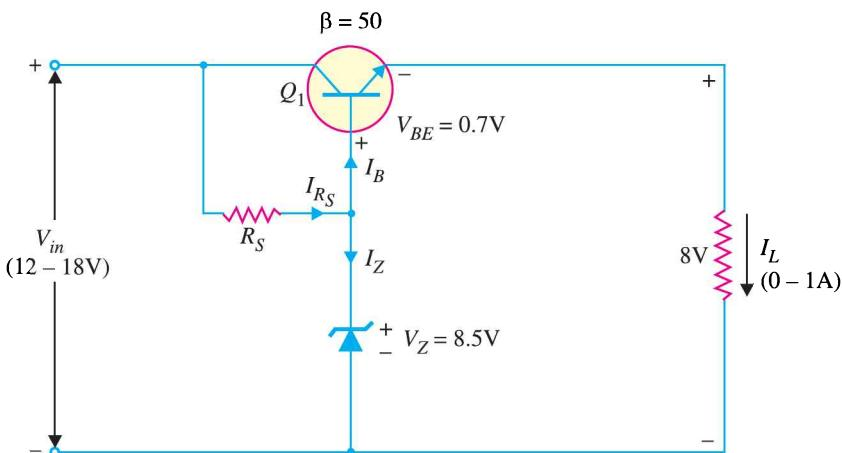

Fig. 17.16
**Example 17.15.** In a series transistor voltage regulator (See Fig. 17.16), the load current varies from 0–1A and the unregulated d.c. input varies from 12–18V. The 8.5V zener diode requires atleast 1 mA of current to stay in its regulating region (i.e.  $I_{Z(min)} = 1 \text{ mA}$ ).